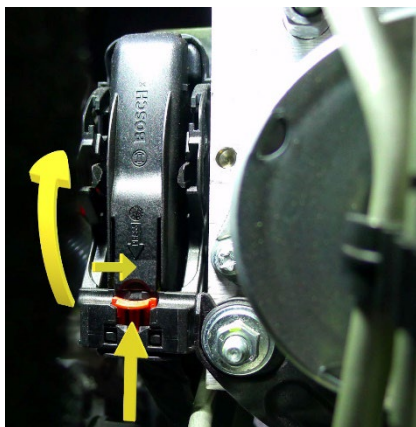
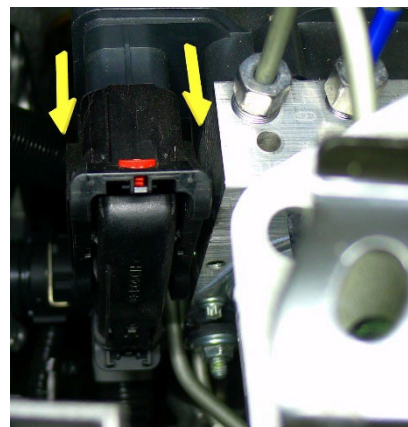

Figure 10
Figure 11
11. Slide the red locking tab, raise the lever (Figure 10), and then remove connector X151 from the HCU (Figure 11).